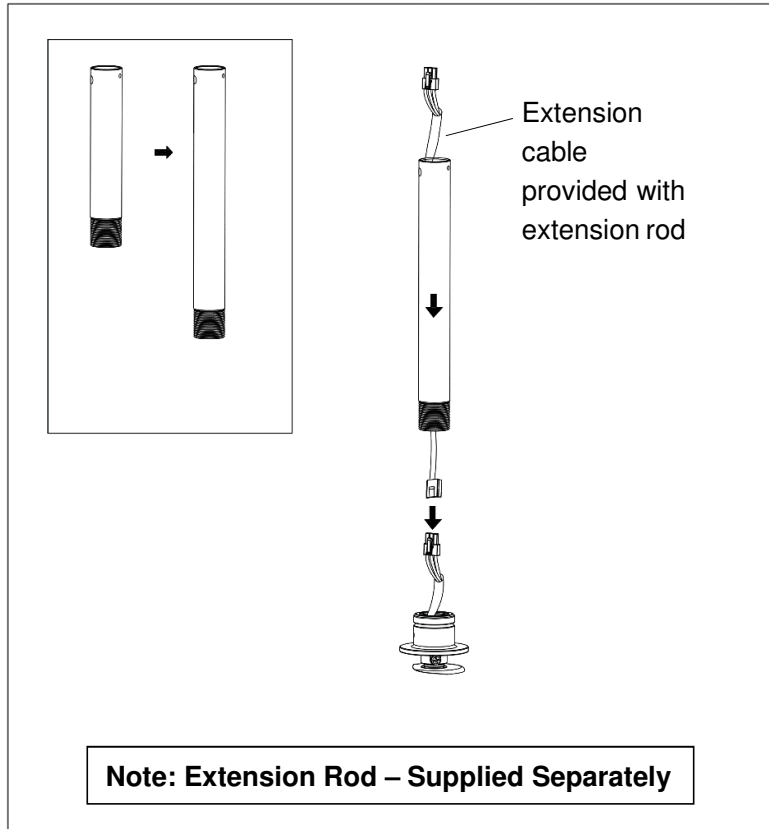

Fig. 10.2
2. Replace the original down rod with the extended one. Connect the extended cable (provided with the extension rod) to the wiring of the fan assembly (Fig. 10.2)